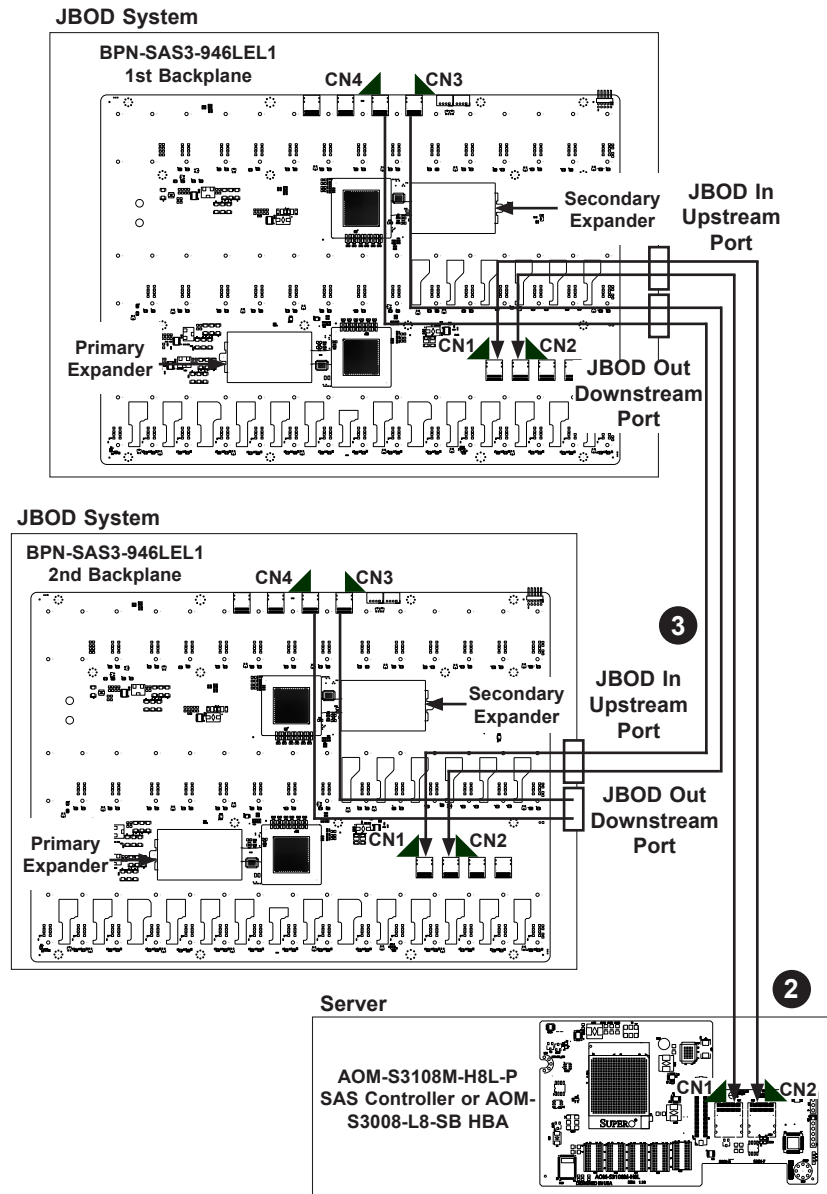

Figure C-5. Backplane Cascading Configuration
2. To connect the 1st backplane connectors CN1 and CN2 to the controller located in a server, plug the External MiniSAS HD to External MiniSAS HD 1m cables (CBL-SAST-0573) into the JBOD in upstream port of the JBOD where the 1st backplane is located and into connectors CN1 and CN2 on the underside of the AOM-S3108M-H8L-P SAS controller or AOM-S3008-L8-SB HBA, as illustrated in Figure C-5.
3. To connect 1st backplane connectors CN3 and CN4 to 2nd backplane connectors CN1 and CN2, plug the External MiniSAS HD to External MiniSAS HD cables (CBL-SAST-0573) into the JBOD out downstream port of the JBOD where the 1st backplane is located and into the JBOD in upstream port of the JBOD where the 2nd backplane is located, as illustrated in Figure C-5.